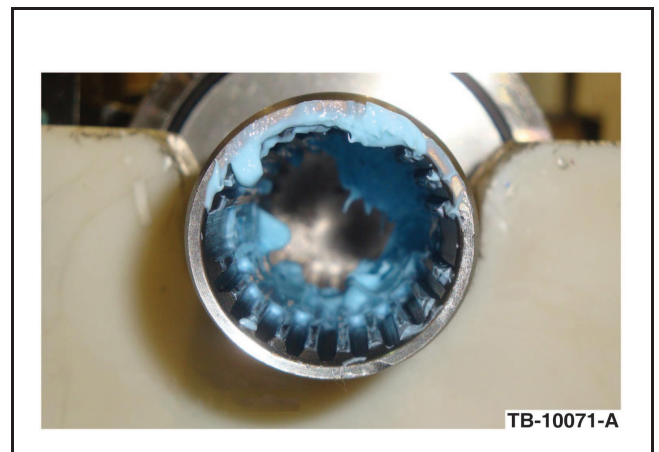

Figure 2 - Article 12-7-13
5. Remove the four (4) driveshaft flange bolts.
10. Apply an even coat of new grease from the kit to the internal splines of the slip yoke only. (Figure 2)